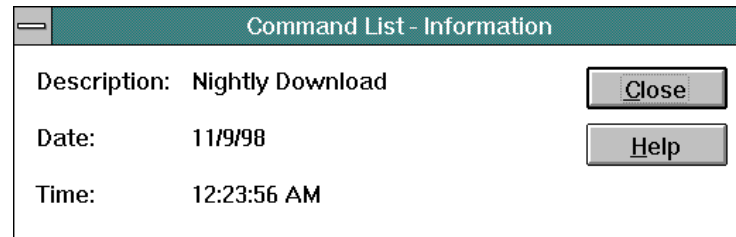

Figure 88. *Command List - Information Dialog Box*
- **List Info** - When a list item is selected (highlighted) and the *List Info* button is clicked, the *Command List - Information* dialog box appears (Figure 88).